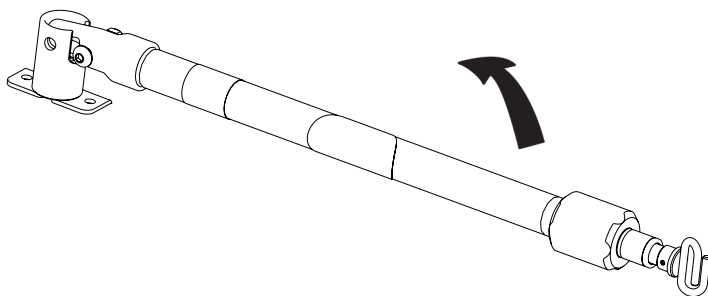

Figure 49: Three-Stage I.V. Pole Storage Position
1. Lift and pivot the pole from the storage position and push down until it is locked into the receptacle (A).
2. To raise the height of the pole, turn the lock actuator (B) counterclockwise and pull up on the bottom telescoping portion (C) of the pole to raise it to the desired height.
3. Turn the lock actuator (B) clockwise to lock the bottom telescoping portion in place.
4. For a higher I.V. pole, pull up on section (D) until the spring clip (E) engages.
5. Hang I.V. bags on the I.V. hook (F).
6. To lower the I.V. pole, push in on the spring clip (E) and slide section (D) down into section (C). Turn the lock actuator (B) counterclockwise and slide section (C) into the bottom tube.
7. Turn the lock actuator (B) clockwise to tighten.
8. Lift up and pivot the pole down into the storage position (see Figure 49).